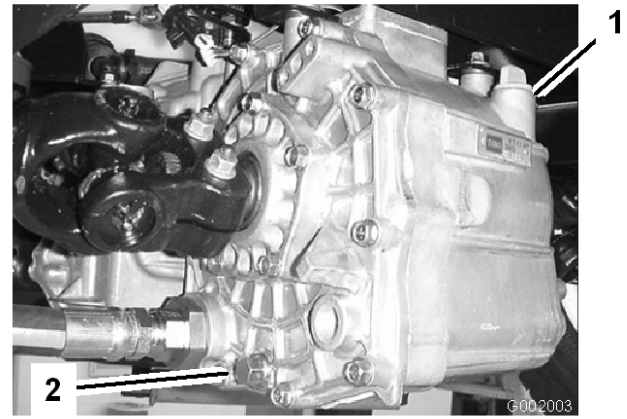

Figure 63
3. Remove the drain plug from the side of the reservoir and let the hydraulic fluid flow into the drain pan (Figure 63).